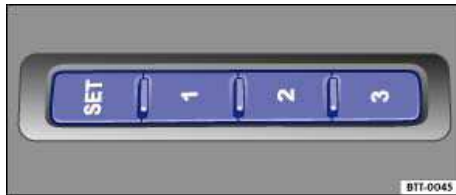

Fig. 57 On the outer side of the driver and front passenger seats: Memory buttons.
- ☐ Press the **SET** button for at least 1 second ⇒ fig. 57.
- ☐ Press and hold a memory button ⇒ fig. 57 until memory position is reached.